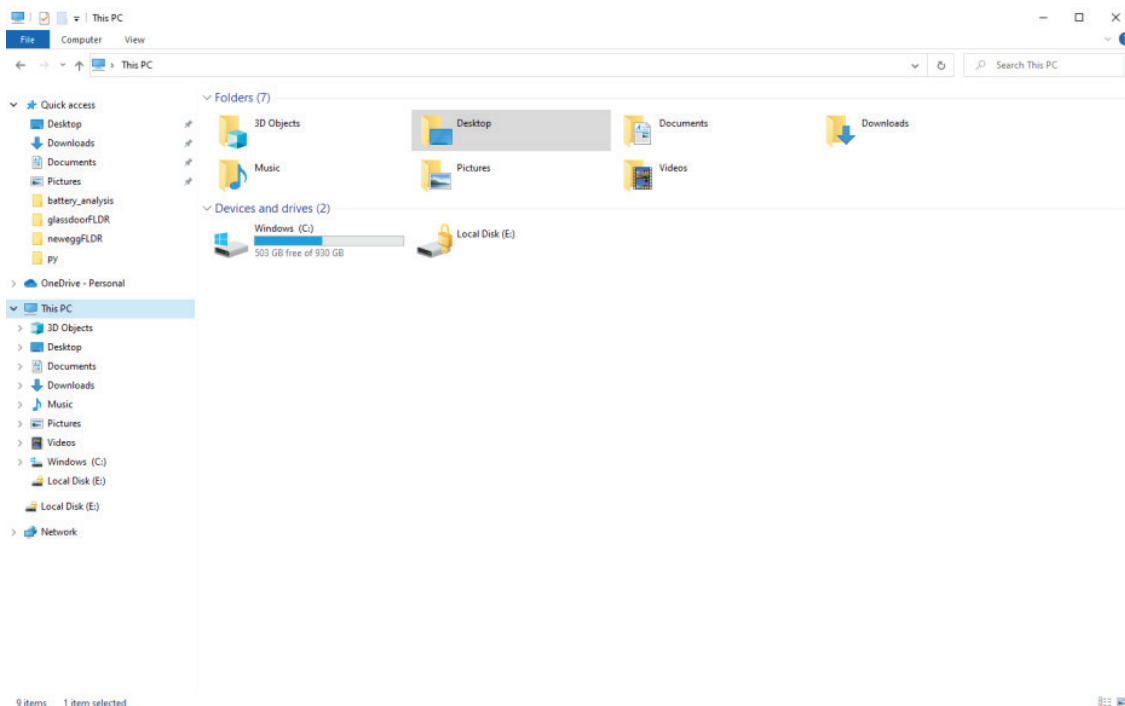

Figure 2
2. You will then proceed to the file browser menu: (figure 2)